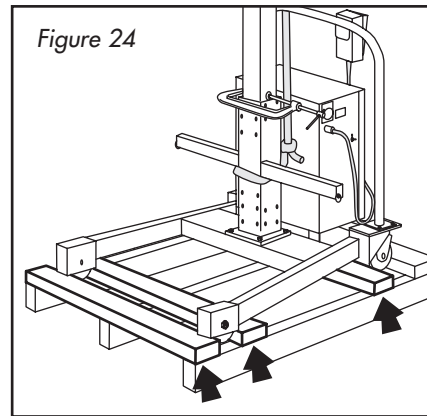

Figure 24
4. Remove the pallet cross-ties. (Figure 24)